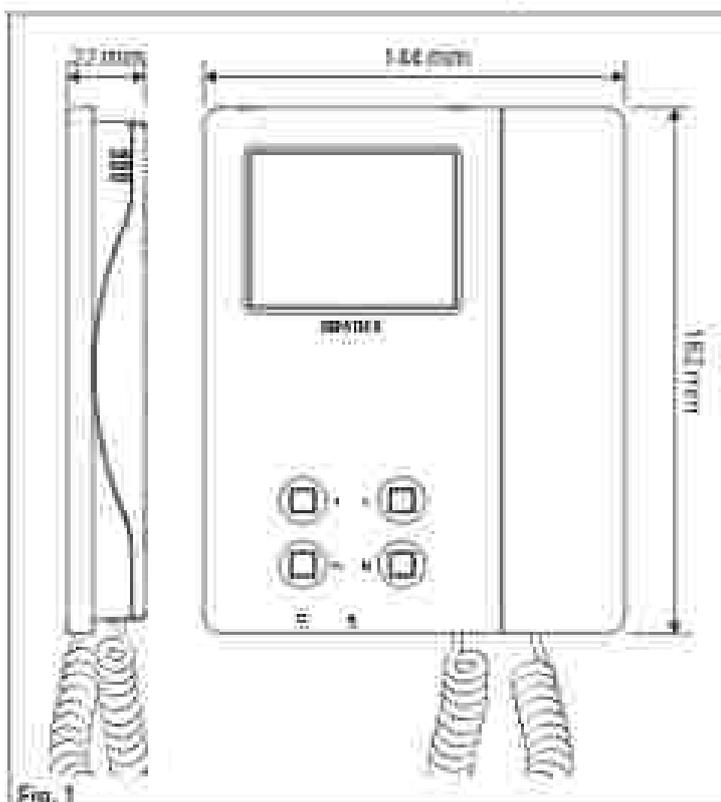
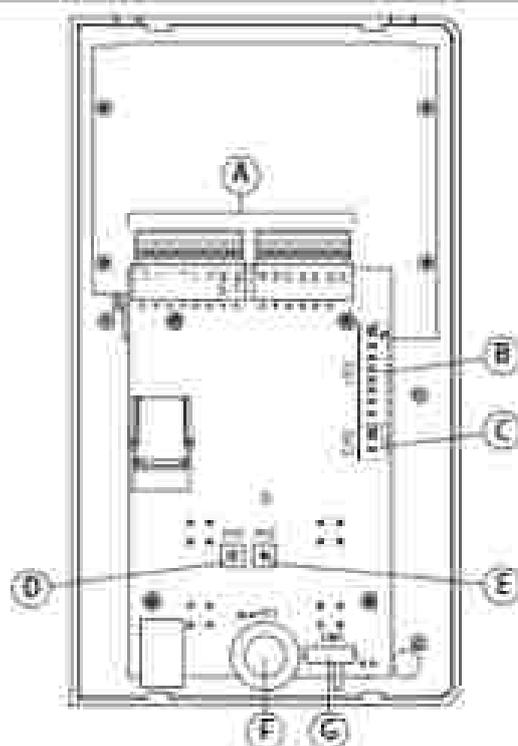

Fig. 1
Fig. 2
1. Place the surface box against the wall (155-170cm between the top of the box and the floor level as shown in Fig. 1) and mark the fixing holes for the wall plugs and the hole for the cables (E) (Fig. 2). Observe the orientation of the box with its hinge on the left.
2. As shown in Fig. 2, drill the fixing holes (A), insert the wall plugs (B) and feed the cables (E) through the surface box opening (G), fix surface box (C) to the wall using the screws (F).
- 1. Position the module support frame being fitted first and then embed the back box into the wall (155-170cm between the top of the box and the floor level as shown on the Fig. 1) feeding the cables (E) (Fig. 2) through a previously opened hole in the box. Observe the direction of the box ensuring the hinge is on the left and take care that the box profile is in line with the finished wall profile.